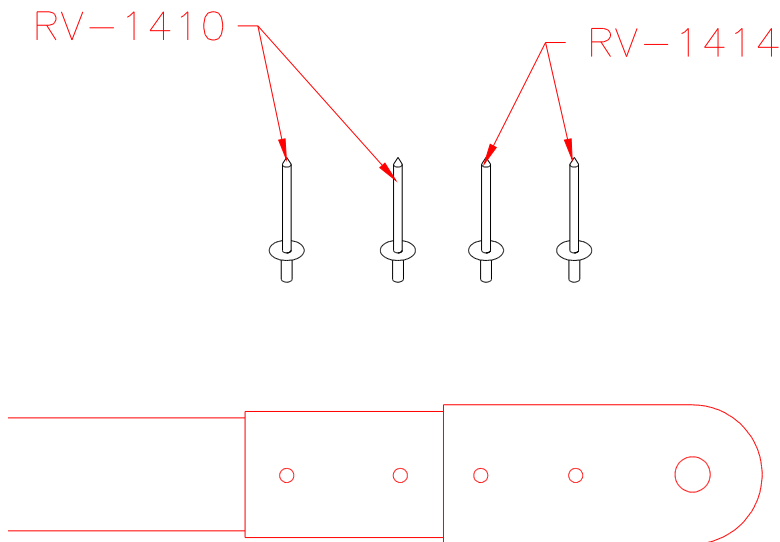

Figure 15.3.3
5) Deburr all holes and edges and rivet together with eight 1/8" rivets (RV 1410) and eight 1/8" rivets (RV 1414). Figure 15.3.3.